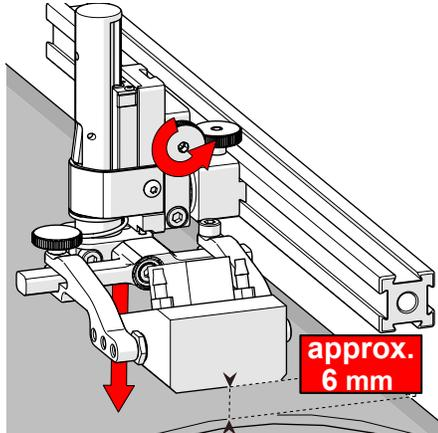

Fig. 130 - Lower toward scan surface
3. Tighten the vertical adjustment knob (Fig. 130).